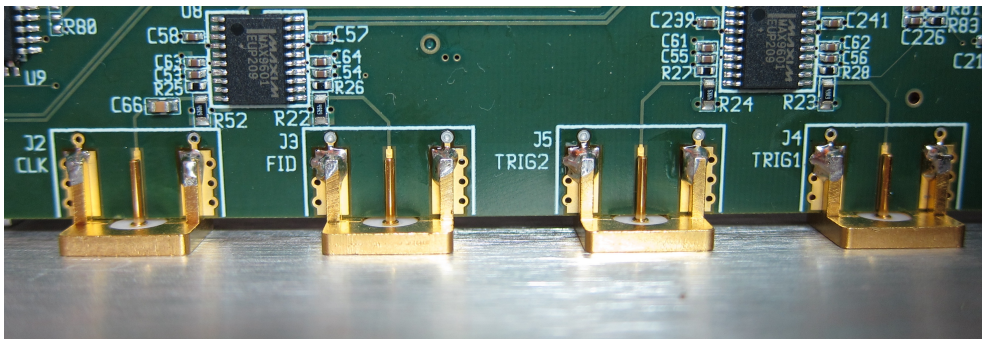

Figure 28: Tack solder the ground pins of the SMA connectors.
6. Tack solder the ground pins of each SMA connector as shown in Figure 28.